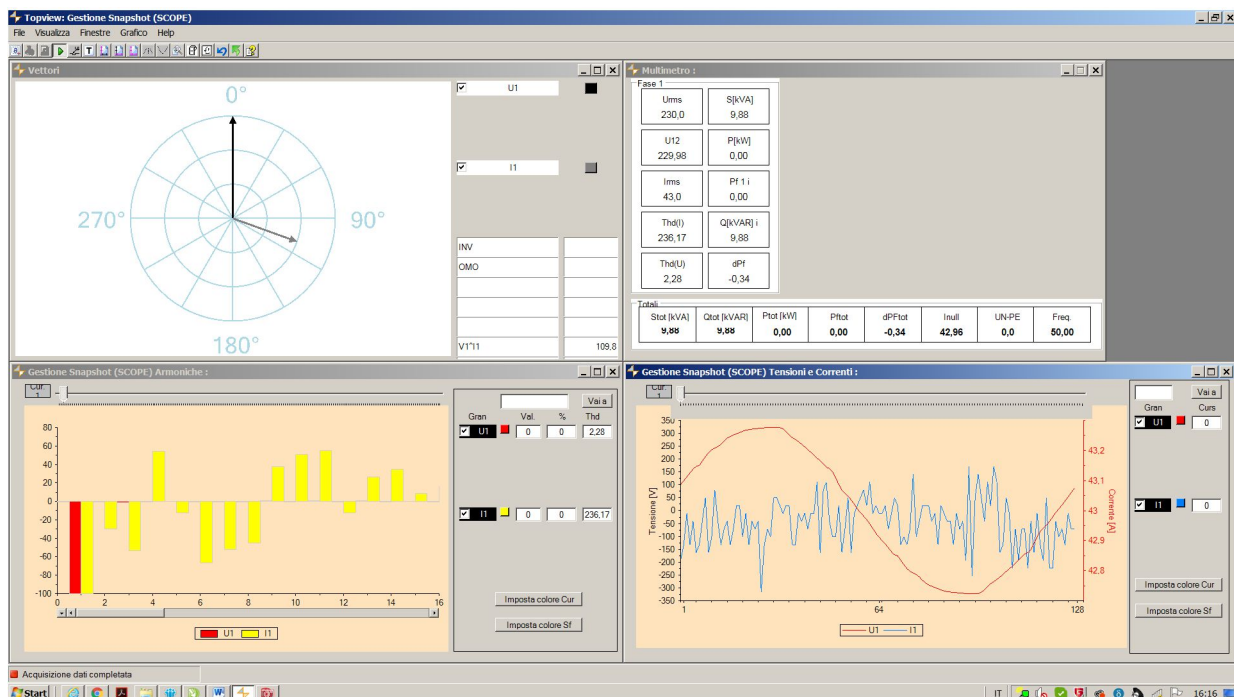

Fig. 20: Real-time visualization of parameters
8. Click on the **"Next"** button to open the real-time visualization of values in the form of tables, waveforms, harmonics graphs and vector diagram, as shown in the Fig. 20